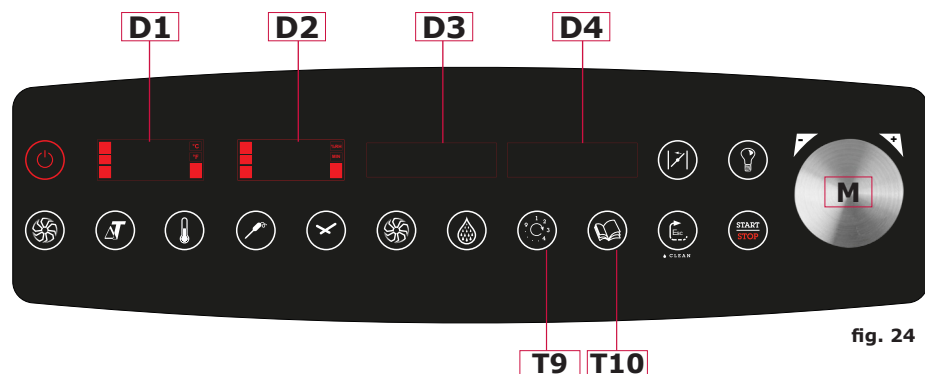

fig. 24
3. Simultaneously press the knob **M** (fig. 24) and the button **T9** (fig. 24).